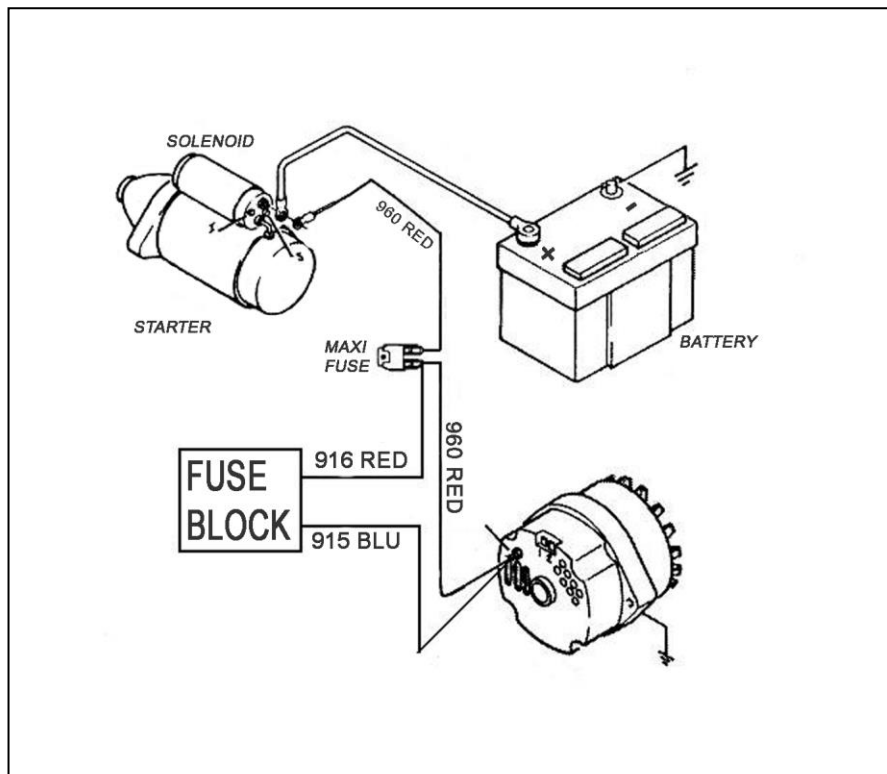

**Figure 7-1A** Mopar Alternator
**7.1.1** Mopar uses one of two kinds of voltage regulators: An electronic regulator and a mechanical one. The electronic voltage regulator is represented in **Figure 7-1A**. It does not matter how the two terminals are connected, so long as they are BOTH connected. The mechanical regulator has terminals marked "F" (Field) and "I" (Ignition). In contrast to the electronic regulator, it DOES make a difference how the mechanical regulator is connected.
**7.1.2** Connect ENGINE SECTION wire #914 (BLU) to the Alternator Field (F) terminal as shown in **Figure 7-1A**. Connect ENGINE SECTION wire #915 (BLK) to the Alternator Output lug (Bat).